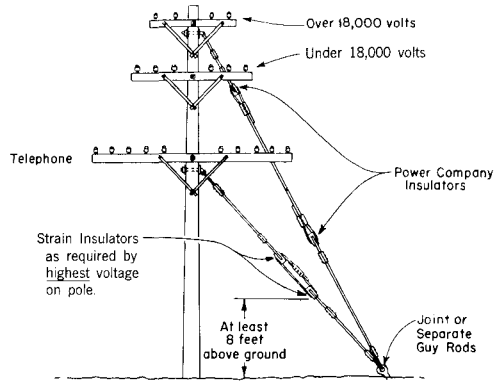

Fig. 5—Insulating Guy on Jointly Used Pole
3.06 The examples in Fig. 5 and 6 further illustrate the application of the requirements governing the location of guy strain insulators.